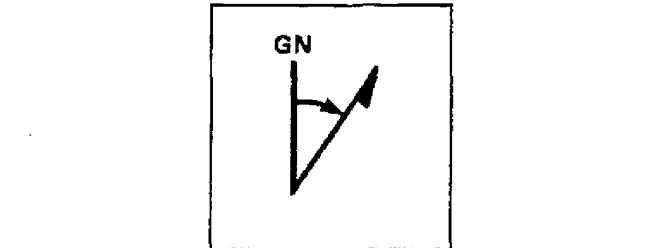

Figure C-32. Converting azimuths with easterly G-M angle
5. Convert azimuths when given an easterly G-M angle (figure C-32).